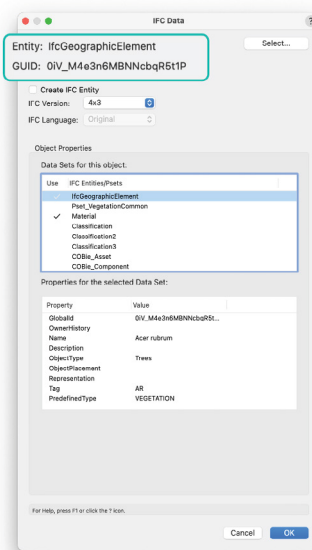

FIGURE 19A
1. An object's IFC tag, or designation, and GUID (Global Unique Identifier) (Fig. 19A).